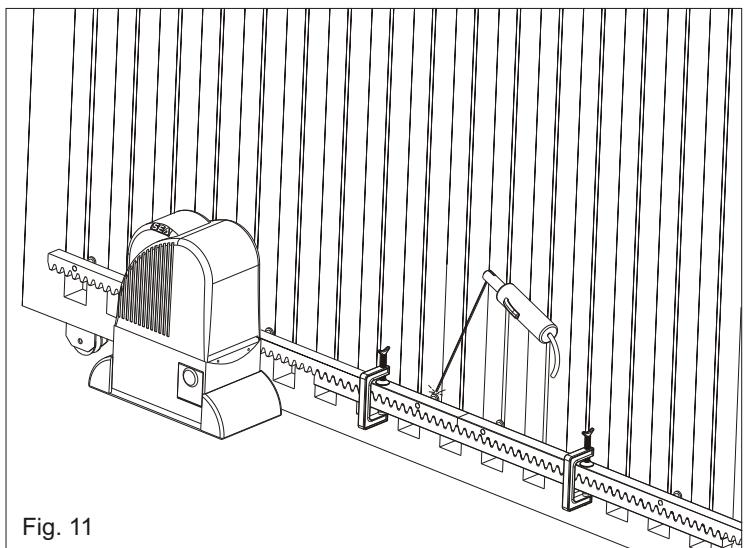

Fig. 11
6.5. Check all the rack pieces are perfectly alined and placed correctly (serrations in phases). When fitting the next section of rack use a third piece as shown in Fig. 11 to ensure a good mesh.